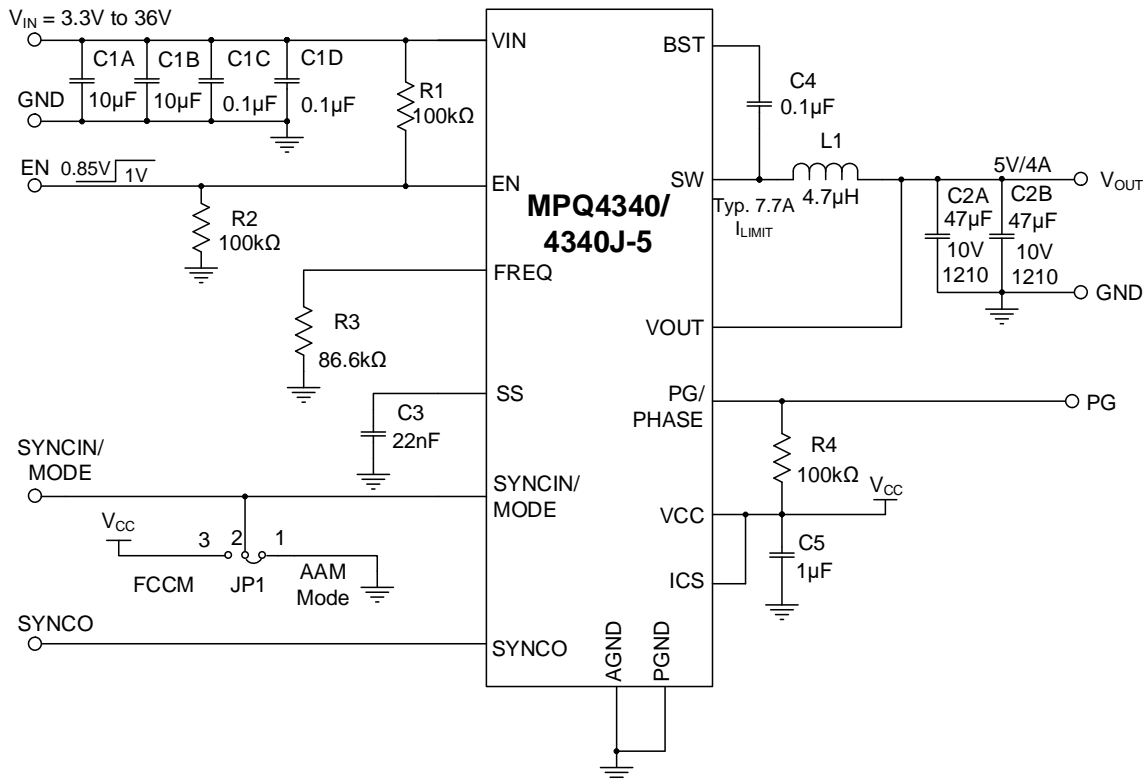

Figure 12: Typical Application Circuit (1-Phase, $V_{OUT} = 5V$, $f_{sw} = 410kHz$)
12) The recommended PCB layout is based on Figure 12 on page 50.